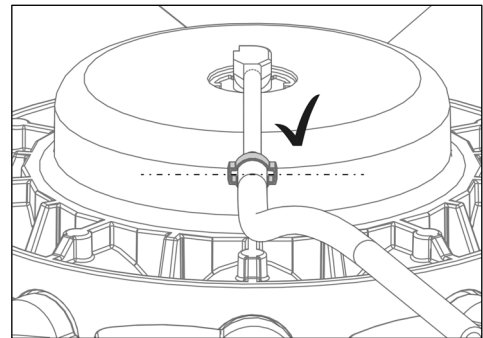

Fig. 17
- 10) Position the hose clamp as shown in Fig. 17.